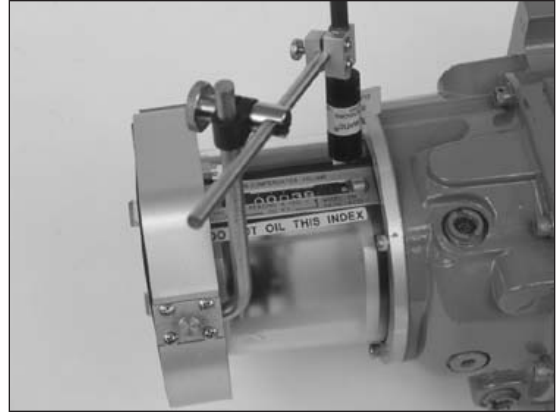
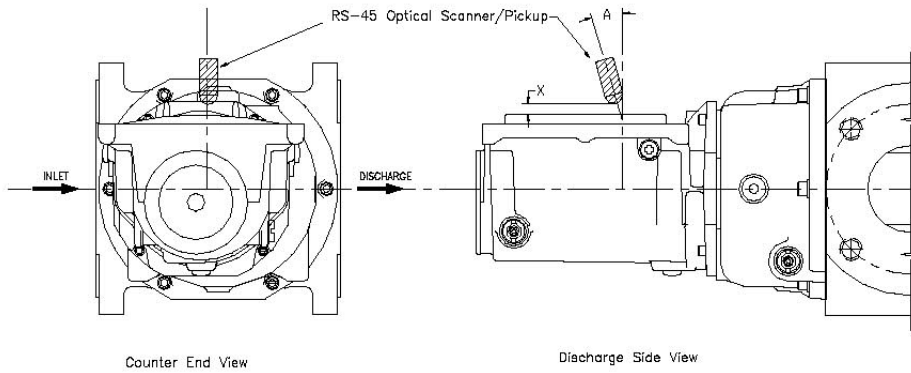

Figure 5: Optional Scanner Relative Positioning and Alignment Series B3 Accessory Unit.
Figure 6: Optical Scanner Relative Positioning and Alignment, Series B2(TQM) Accessory Unit
- a. Align the optical scanner as indicated in Figure 5 for Series B3 (see Figures 6 and 7 for Series B2 and A1 respectively) and hand tighten. Refer to steps c and d for correct focusing and positioning.
The distance X shown in Figures 6 and 7 should be approximately 1/2 inch (or about the width of your small finger). Set angle A slightly off-center at approximately 15 degrees.